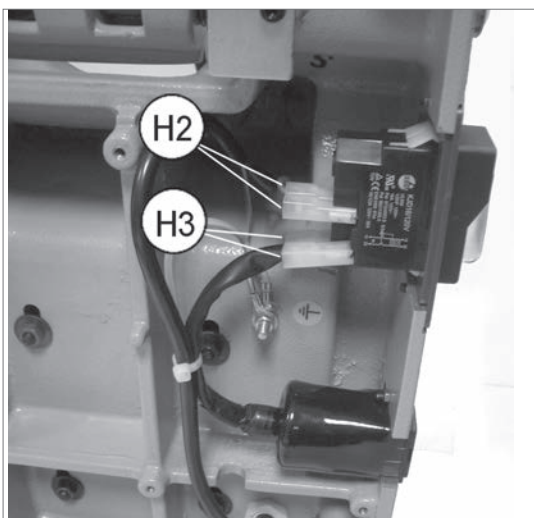

Fig. 41
- 2) Detach the 4 connectors (H2) and (H3) paying special attention to their position (Fig. 41).